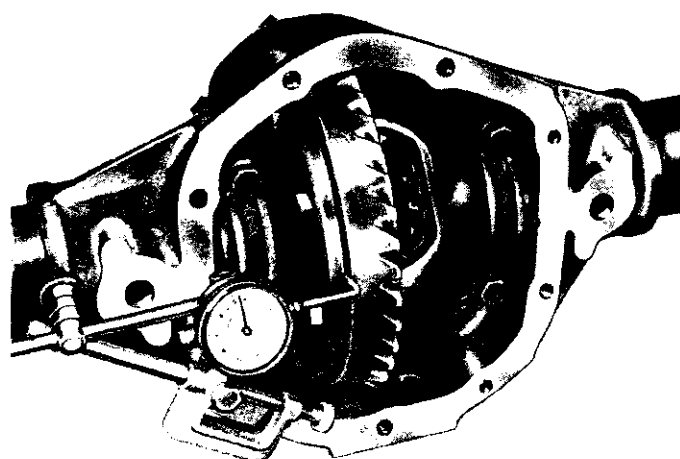
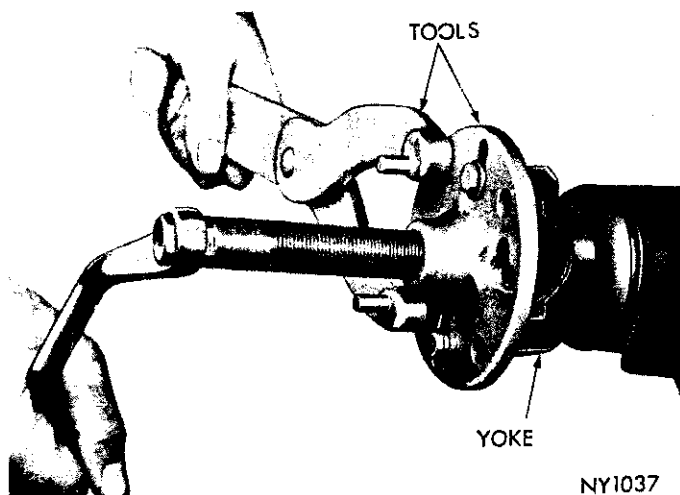

Fig. 8—Measuring Drive Gear Runout
Fig. 9—Removing Companion Flange
(4) In preparing to measure drive gear runout on differential case, (provided no side play was found) mount a dial indicator tool C-3339 on pilot stud C-3288, and load the indicator stem slightly when plunger is at right angles to back face of drive gear (Fig. 8).
(5) Measure drive gear runout by turning drive gear several complete revolutions and reading dial indicator. Mark drive gear and differential case at point of maximum runout. The marking of differential case will be very useful later in checking differential case runout. Total indicator reading should be no more than .005 inch. If runout exceeds .005 inch the differential case may be damaged. A test for case runout will be described later.
(6) Remove drive pinion nut and washer. Using Tool C-452 and holding Tool C-3281, remove drive pinion flange (Fig. 9).